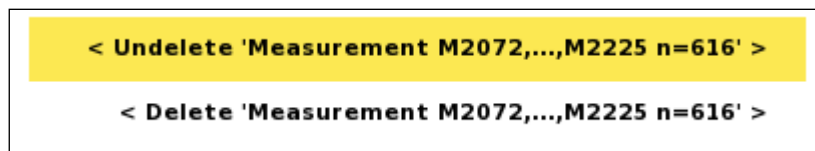

Figure 64 Undelete/Delete data points Option menu
- Highlight “<Undelete ‘Measurements Mxxx,...,Mxxx n=xxx’>” (Mxxxx represents a measurement id) (Figure 64)